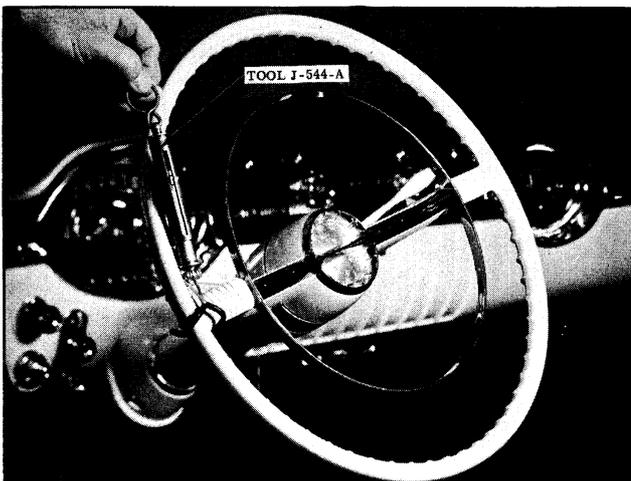

Fig. 5-2 Checking Worm Bearing Adjustment
3. With spring scale Tool J-544-A at the rim of the steering wheel, measure the pull which is required to keep the wheel in motion at about 30° off center. (See Fig. 5-2)